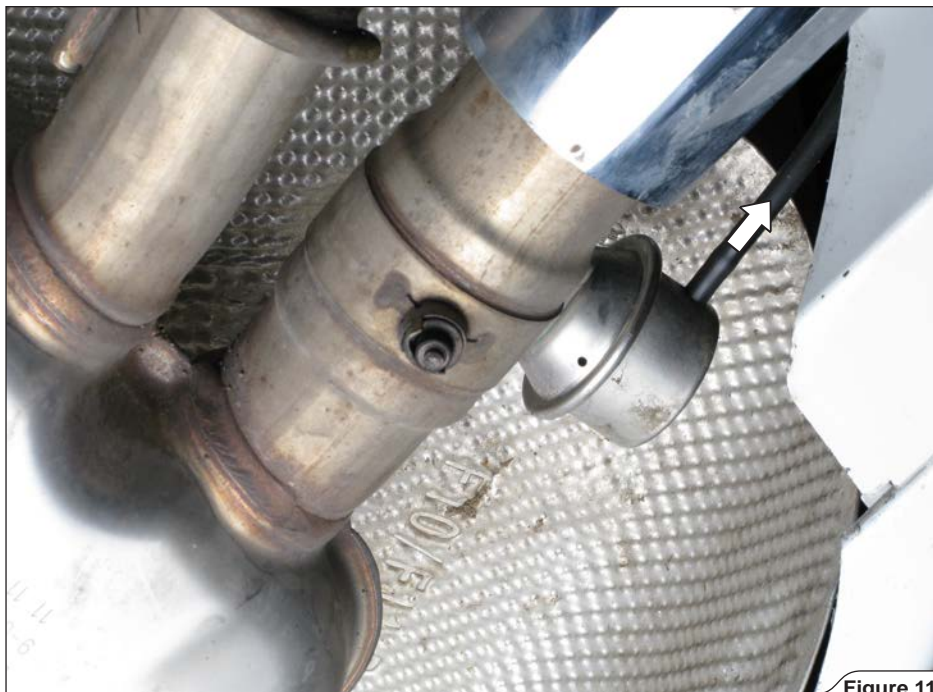

Figure 11
9. Carefully pull the vacuum tubes off both vacuum actuators (**Figure 11**).